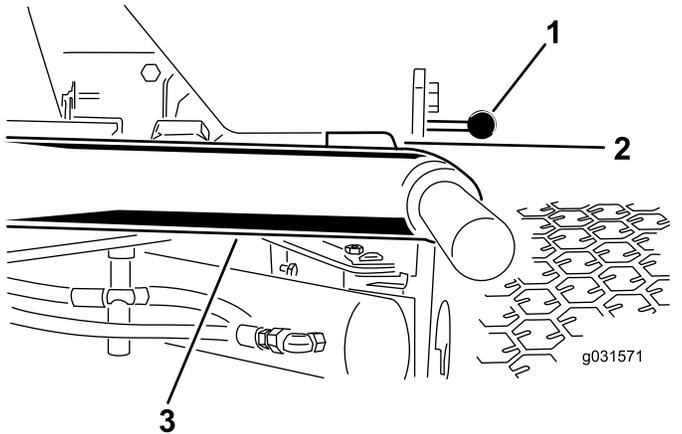

Figure 7
1. Start the engine, raise the cutting units, and ensure that the clearance between each lift arm and the floor-plate bracket is 5 to 8 mm (0.18 to 0.32 inch) as shown in Figure 7.